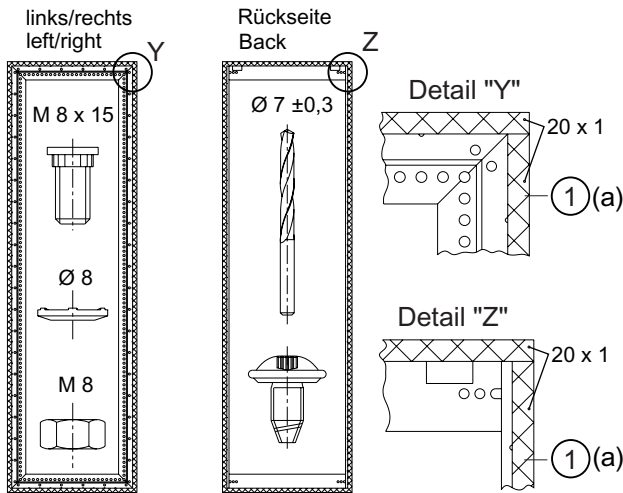

Fig. 8a
- When two or more cabinets are to be joined together, 20x1 mm sealing tape must be attached all around between the outer row of holes and the frame edge on one of the frame surfaces to be joined to achieve degree of protection IP54. See Figure 8a (a).